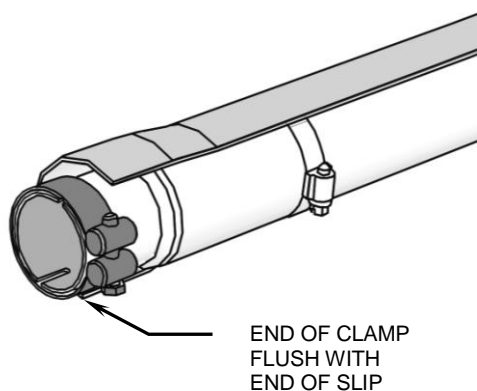

FIGURE 1
4. Slide the supplied 27-61 MSC clamp over the front slips of the muffler assembly and position them as shown in Figure 1. (To edge of slip pipe)